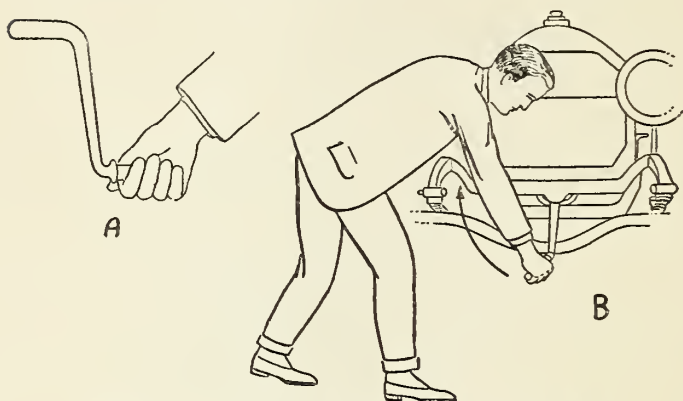

FIG. 7.—A and B. The proper way to crank a car.
(1) Where a self-starter is used all you need to do is to push down on the *starting switch* with your foot and it will do the rest.
(2) If your car is one that you have to crank by hand, grasp the handle of the crank with your right hand and keep your thumb and fingers on the same side and in the same way as shown at A in Fig. 7, and stand